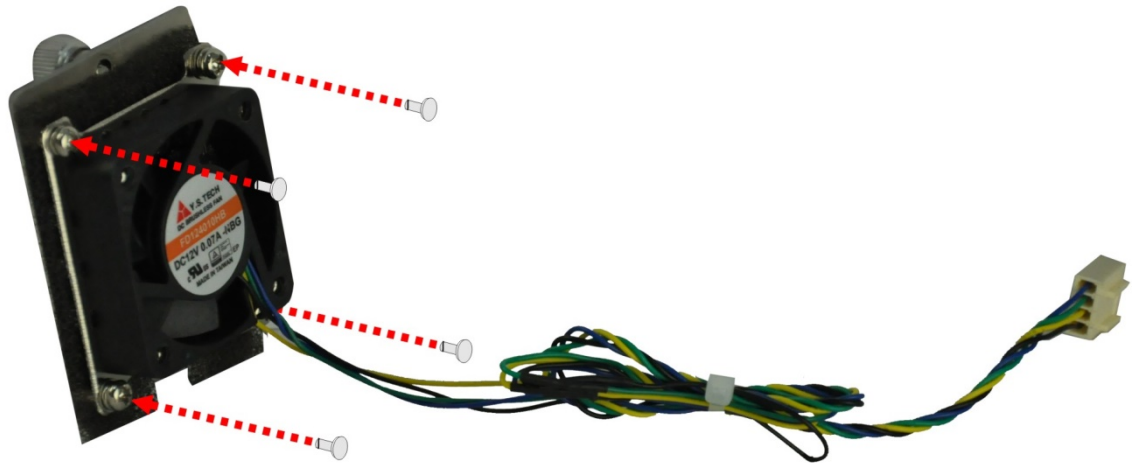

Figure 3-8: Reinstall the Fan Bracket to the Cover
Step 4: Reinstall the fan bracket with the system fan installed to the cover and secure it by four retention screws (**Figure 3-8**).